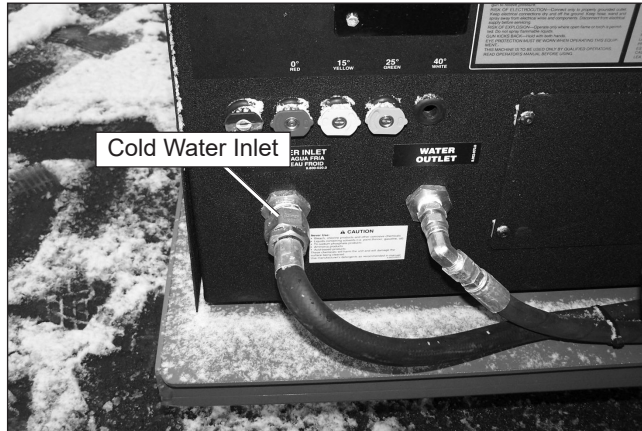

Figure 8.16 – Pressure Washer
1. Fill both of the water tanks with clean water. A garden hose may be attached to the fitting on the side of the pressure washer as a water source also (refer to Figure 8.16).